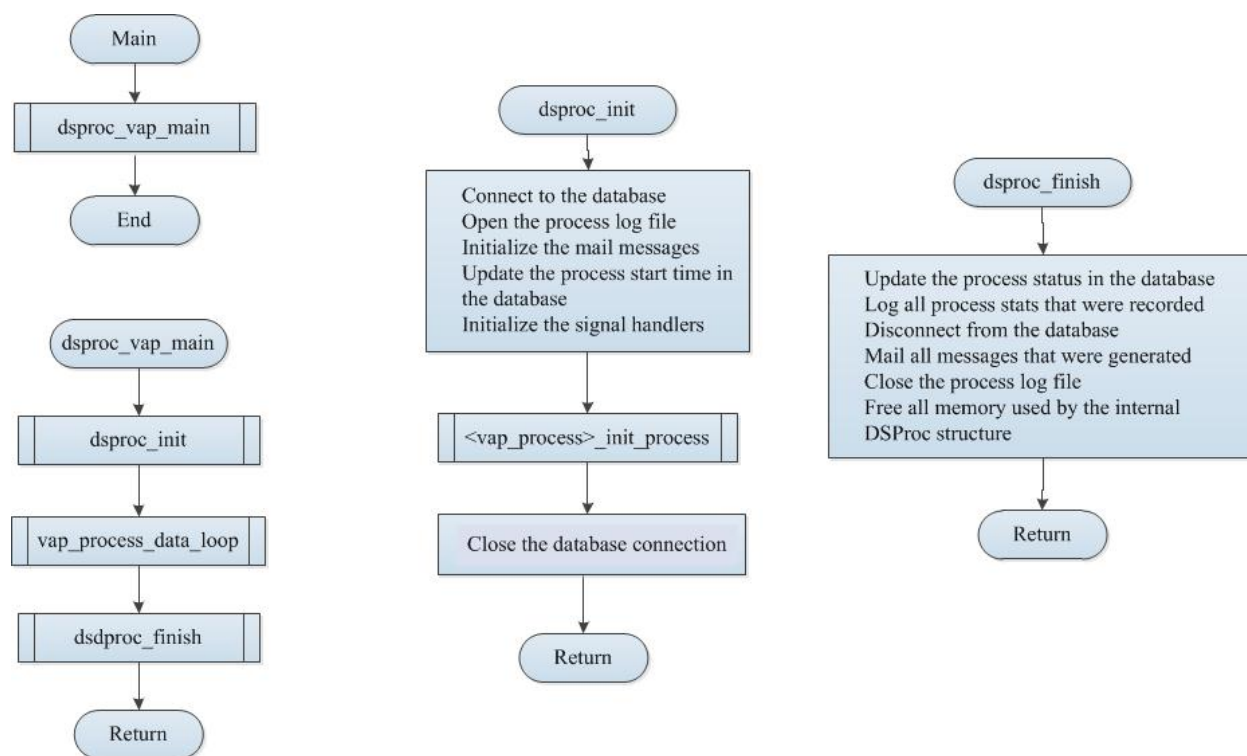

Figure 8.1. Passthrough VAP Flow Chart
- source code template (See Figure 8.1)
The <process_name>_vap.c file produced by the passthrough template has all the source code unique for a particular VAP. It includes a main function that calls the ISDE DSProc’s dsproc_vap_main function, and three vap specific functions for initializing (<vap_name>_init_process), processing (<vap_name>_process_data), and finishing (<vap_name>_finish_process) the VAP process. The initialization and finishing subroutines can be used as locations to insert hooks to run new logic either before data is retrieved or after data has been processed. The dsproc_vap_main function uses the VAP’s input arguments and the three VAP specific functions to manage the VAP processing. The vap specific functions passed into dsproc_vap_main are called at appropriate times by the appropriate subfunctions of dsproc_vap_main. Figure 8.1 outlines the process flow of a passthrough VAP.